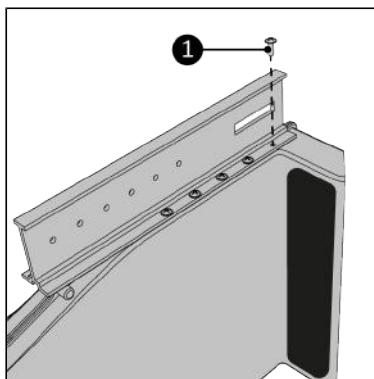

Figure 96.
5. Screw the main rail to the Way-out using the ten 3,5 x 10 mm screws (Figure 96, pos. 1). Make sure all screw holes match up.